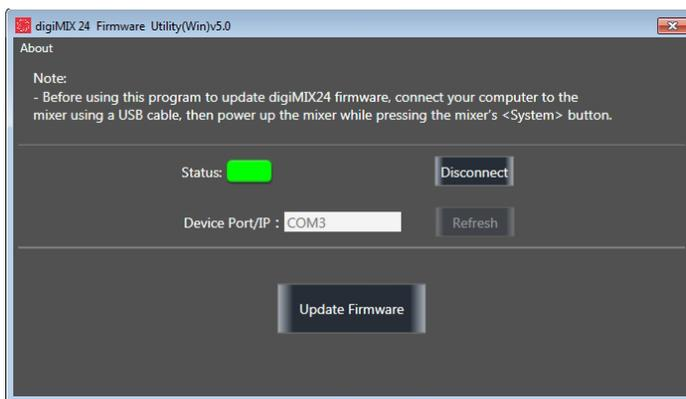

Figure 6.1b: digiMIX24 Firmware Utility
3) Launch the <digiMIX24 Firmware Utility> program on your computer. The digiMIX24 serial port will automatically appear when the program discovers the mixer (see figure 6.1b). If the port is not showing, check connections or verify that the USB device driver is properly installed. **Note: There can only be one digiMIX24 connected to your computer during firmware update.**